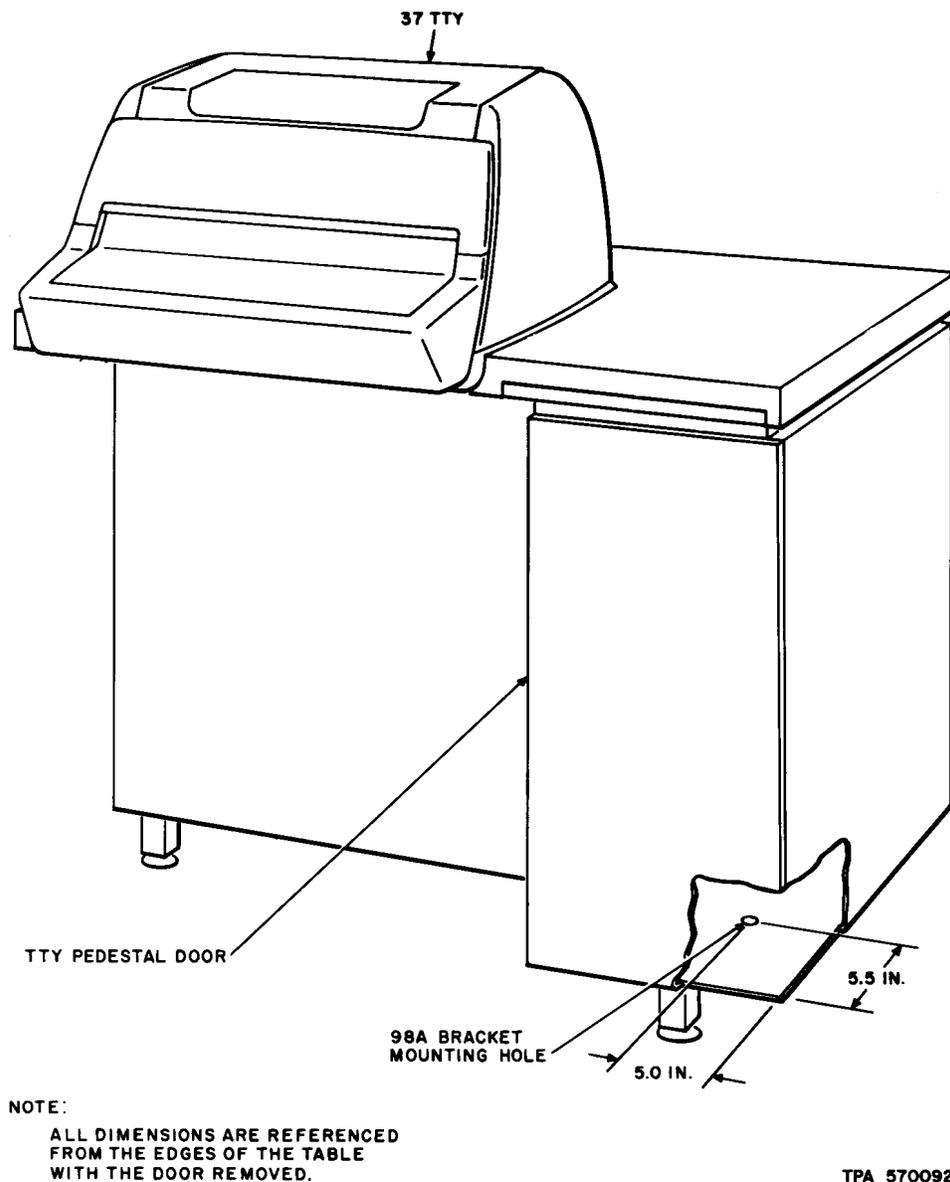

Fig. 5—98A Bracket Hole Position in Model 37 TTY
- (1) If 98A bracket mounting hole is not furnished, locate and drill one 7/16-inch hole in bottom of TTY pedestal as shown in Fig. 5.
- (2) Using MOLLY jacknut installer tool No. 1956 or MOLLY jacknut friction wrench and a screwdriver, install one jacknut-type 8-S JN 1/4-20 (supplied with 98A bracket).
- (3) Using four P-181454 (0.164-32 x 1/2 inch) binding head machine screws (furnished with 98A bracket), mount DAS 820D-L1A on the 98A bracket.